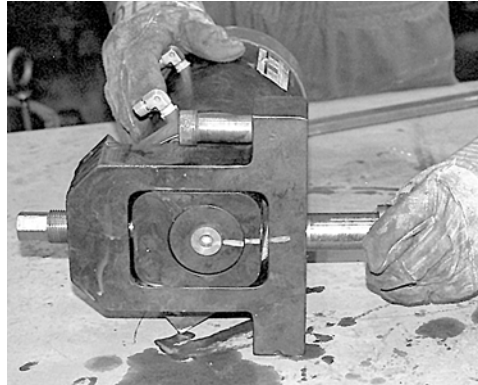

Figure 5-13. Removal of Upper Seal Sub
11. Pry the upper seal sub out of the idler bracket using a couple of screwdrivers (see Figure 5-13). Do not damage the T-seal. Replace the T-seals and wave spring if damaged.